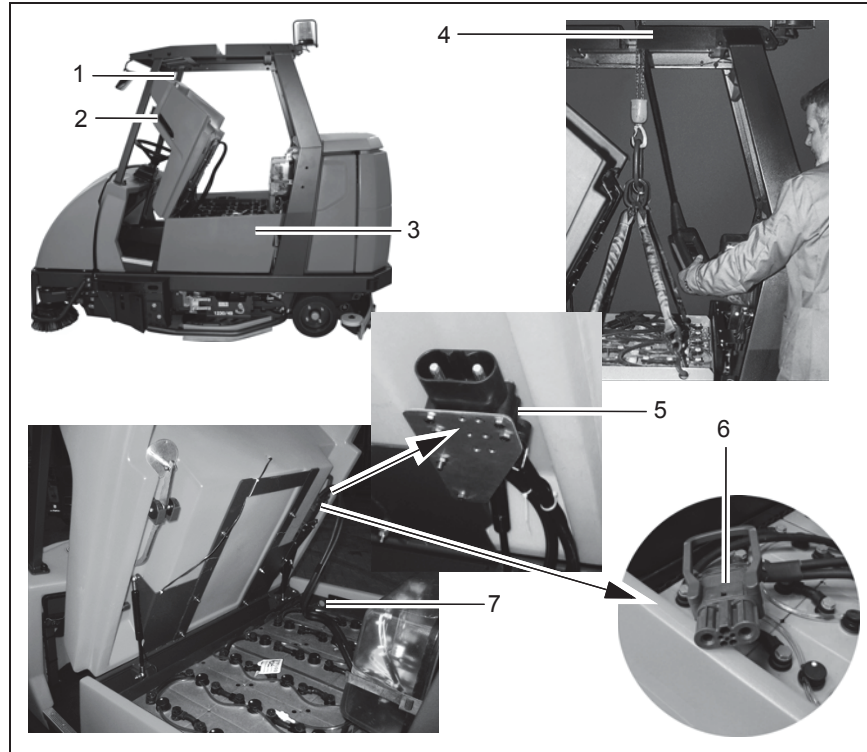

Fig. 29
2. Open the side doors to the left and right (Fig. 29/3).
3. When you are positioned on the right-hand side of the vehicle, take hold of the seat console at the handle (Fig. 29/2) and pivot up towards the front.
Pivot the seat console (Fig. 29/1) open from the right-hand side of the vehicle, otherwise your hands could be crushed between the seat console and cab safety roof (if fitted).
4. Disconnect the battery and vehicle plug (Fig. 29/5+6).
If the scrubber-drier is equipped with a cab safety roof, lift the trough battery out on the left-hand side of the battery. The cab safety roof has a recess (Fig. 29/4) for the lifting gear rope.
5. Guide the lifting gear from the left to the battery and hang the hooks in the fitting holes on the battery trough (Fig. 29/7).
1. Open the side doors to the left and right (Fig. 29/3).
2. Take hold of the seat console (Fig. 29/1) at the handle (Fig. 29/2) and pivot it forwards to open it.
If the scrubber-drier is fitted with a cab safety roof, the trough battery can only be installed from the left-hand side of the vehicle; the cab safety roof is provided with a recess (Fig. 29/4) for the lifting gear rope.
Connect the battery plug (Fig. 29/6) and vehicle socket (Fig. 29/5) to each other. Ensure they are connected firmly.